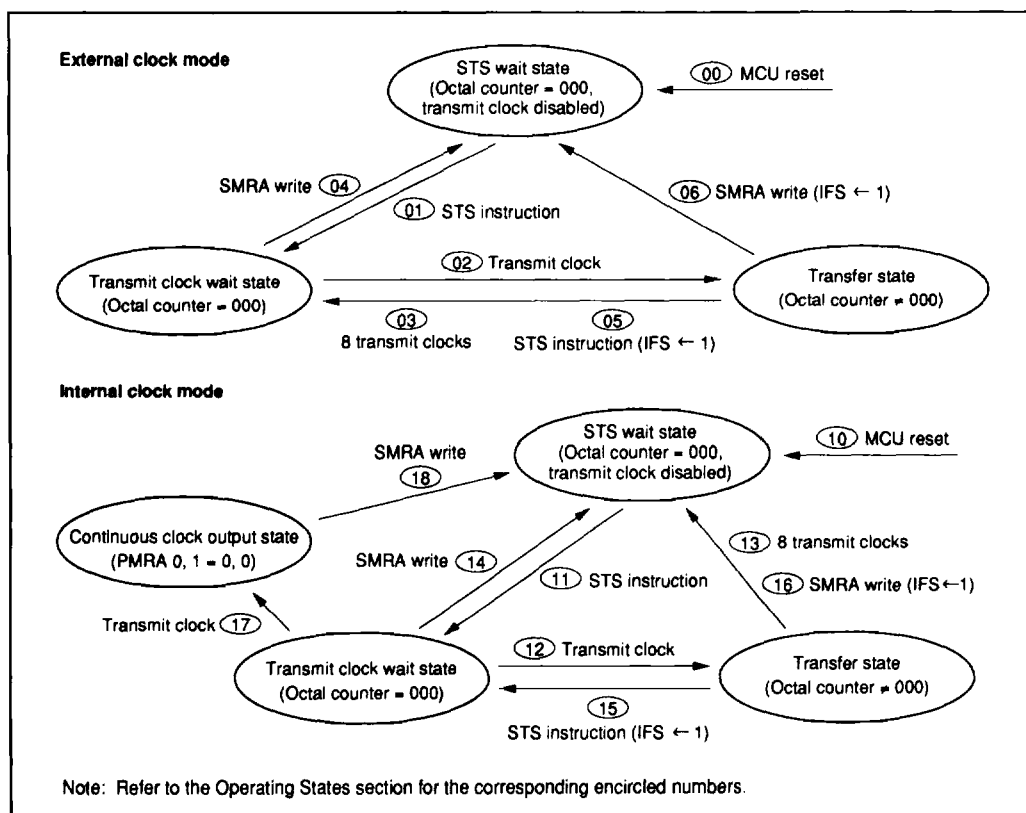

Figure 71 Serial Interface State Transitions
Operating States: The serial interface has the following operating states; transitions between them are shown in figure 71.
- **STS wait state:** The serial interface enters STS wait state by MCU reset (00, 10 in figure 71). In STS wait state, the serial interface is initialized and the transmit clock is ignored. If the STS instruction is then executed (01, 11), the serial interface enters transmit clock wait state.
- **Transmit clock wait state:** Transmit clock wait state is the period between the STS execution and the falling edge of the first transmit clock. In transmit clock wait state, input of the transmit clock (02, 12) increments the octal counter, shifts the serial data register, and enters the serial interface in transfer state. However, note that if continuous clock output mode is selected in internal clock mode, the serial interface does not enter transfer state but enters continuous clock output state (17).